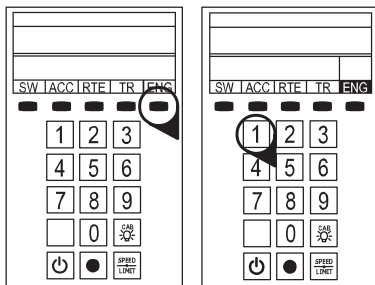

Figure 2. LEGACY engine selection
4. As illustrated in Figure 2, press **ENG** and **1** (or your selected ENG ID#) to address the locomotive with your LEGACY CAB-2 Remote Controller.